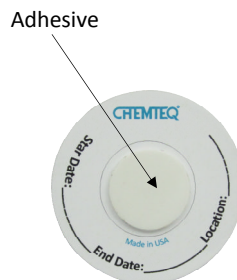

Figure 3
- Record start date and location on the back of the area monitor (Figure 3)